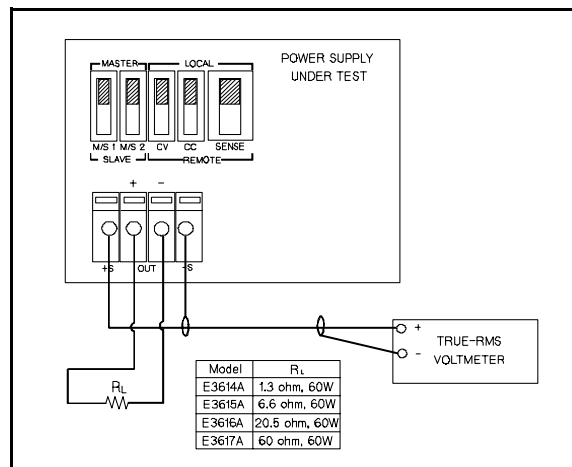

Figure A-6. CV PARD RMS Measurement Test Setup
- Connect the test equipment as shown in Figure A-6.